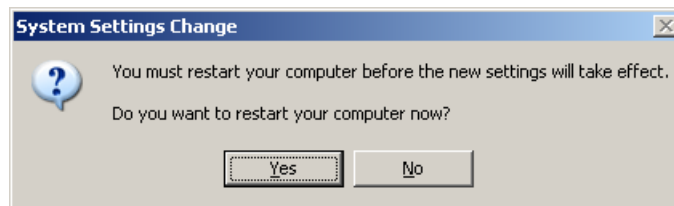

Figure 12
- In order to begin the installation of the Silicon Laboratories Drivers select the pushbutton labeled **Install**. The computer will proceed with the installation of the Silicon Laboratories Device Drivers. Upon completion of the Install, a window will appear informing the user that the computer must be reset for the drivers to take effect. Refer to Figure 12. At this time, select **Yes** to complete the installation and restart the computer.